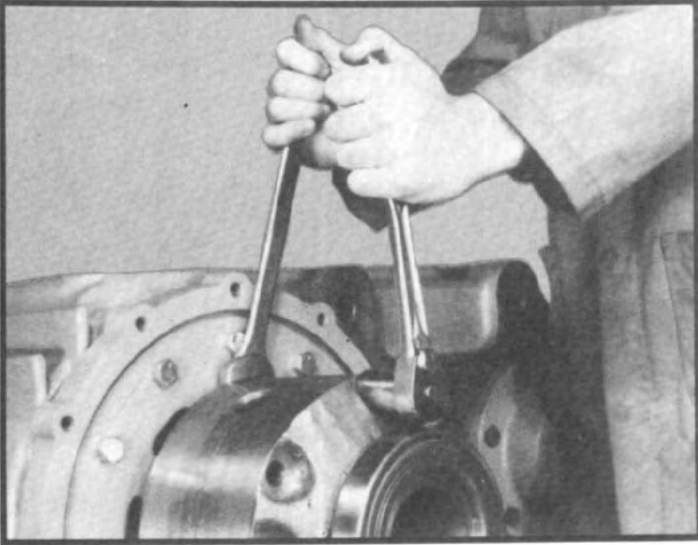
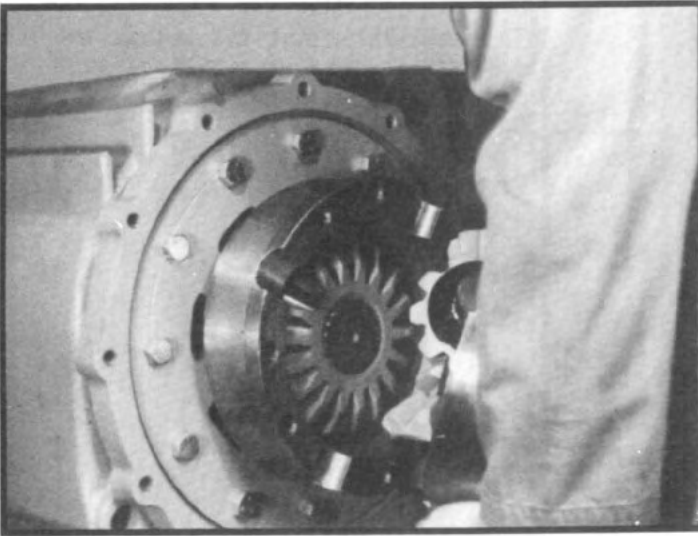

Fig. 47
Fig. 48
2.12 Remove bolts from differential case, (See fig. 47), split the case and remove rear of case. (See fig. 48.) As the rear of the case is removed be sure to also remove the spider and pinion gear assembly with the rear of case (Do not let spider and pinion gear assembly drop from case). Remove spider and pinion gear assembly, differential side gear and thrust washer from case half. The differential spider, thrust washers and pinion gears do not have to be disassembled.